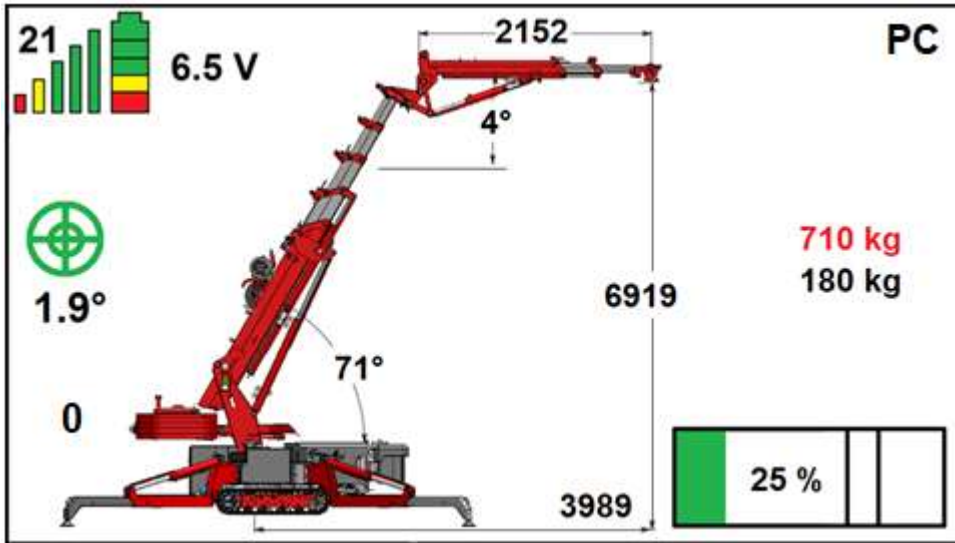

Figure: 60
- The transmission frequency is shown at the top left. See figure 60; here it is set to 21.
- The signal strength is indicated by 5 vertical bars. If the strength is good, they are all shown, as in figure 60. As the signal weakens, the green bars disappear first, then the yellow and red ones.
- The battery state of charge is shown in the battery symbol in the top-left corner of the screen. When the battery is fully charged, 3 green blocks, 1 yellow and 1 red are shown, as in figure 60. As the battery discharges, the blocks go out, one at a time.
- The voltage is shown in volts. In figure 60 this is 6.5 V.
- The degree of levelling of the machine is also shown. This is indicated by the green circles in the middle. In figure 60 the crane is 1.9° out of level.
- The position of the main boom is 71° in figure 60.
- The position of the jib is 4° in figure 60.
- The radius of the outreach is 3989 mm in figure 60.
- The lifting height is 6919 mm in figure 60.
- The length of the jib is 2152 mm in figure 60.
- The crane is loaded at 25% in figure 60.
- As can be seen in figure 60, the ballast is extended. If the ballast is retracted, the indicator moves, and if the ballast is removed from the crane, it is no longer shown on the display. There is also a value next to the ballast. The value shown in figure 60 is 0; this means that the ballast is retracted (extended 0 mm). When you extend the ballast, the distance the ballast is extended is shown here.
- At the top right of the screen, the letters PC are shown (see figure 60). This means that the crane is in the pick and carry mode. It is now using the pick and carry load diagram.